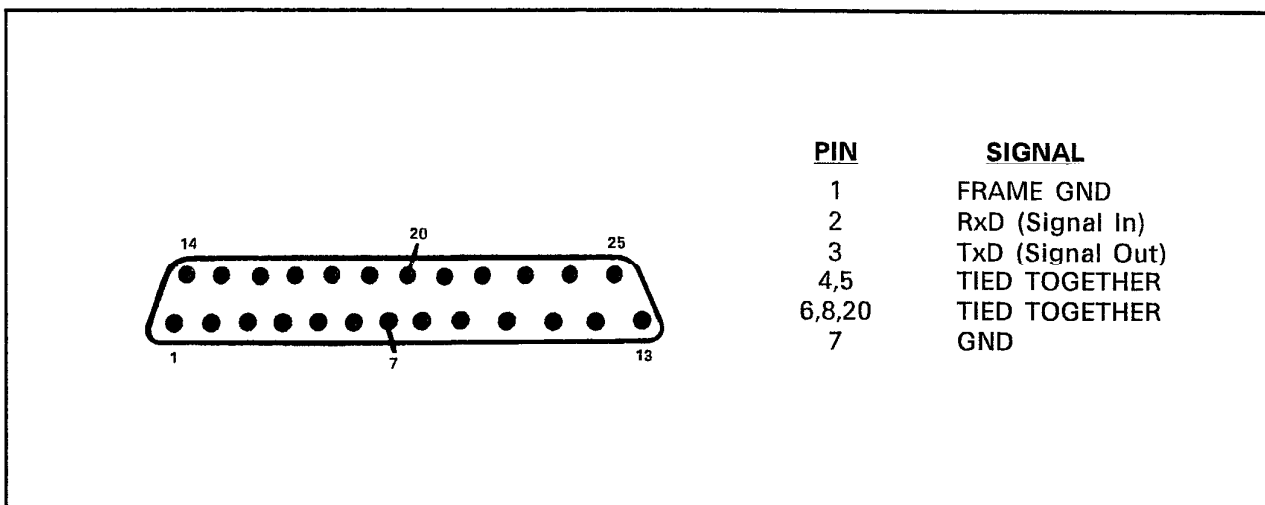

Figure 4-6, RS-232 Interface Connector (Viewed from outside Dialer)
**4.13** The RS-232 Computer Port connector (refer to Figure 4-6) is a female connector configured as "DCE". Only the TxD (pin 3), the RxD (pin 2), and the GND (pin 1) lines are used by the Controller. Pins 4 through 6, 8, and 20 are shorted internally for the convenience of the user. This port is used for programming and call recording output.